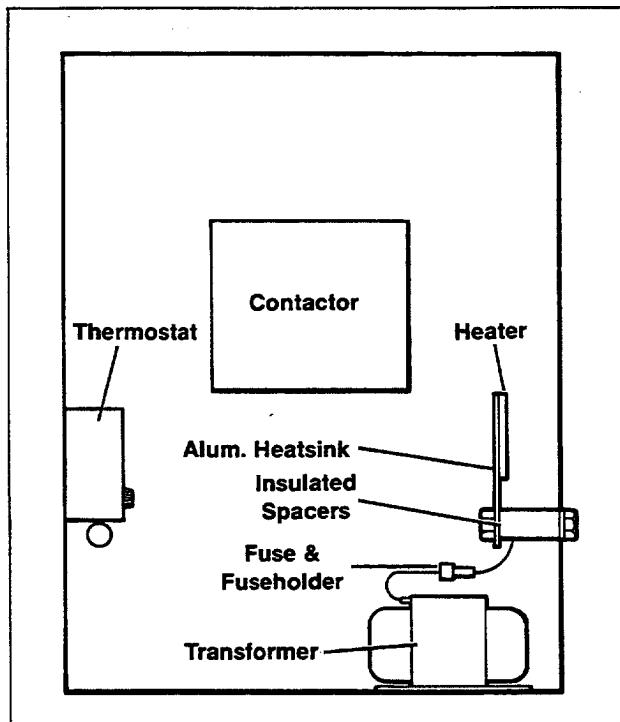

Figure 2. Heater Kit Assembly
5. If a transformer is required select a location on the bottom of the transfer switch enclosure and as close to the right-hand side as possible. Drill four .250 inch (6.35 mm) holes through bottom of enclosure using transformer as a template. See Figure 2.
7. Select a location to mount heater assembly on lower right-hand side of enclosure. If a transformer is used, mount directly above and with insulators to the bottom. The two holes should be .281 inches (7.14 mm) in diameter and two inches (5.08 cm) apart horizontally. See Figures 2 and 3.
9. If a thermostat is used, locate on left-hand side of enclosure near ground lug. Remove cover of thermostat and use backplate as a template to drill two .250 inch (6.35 mm) holes diagonally apart. Position of thermostat must be with sensing coil to the bottom. See Figures 2 and 4.